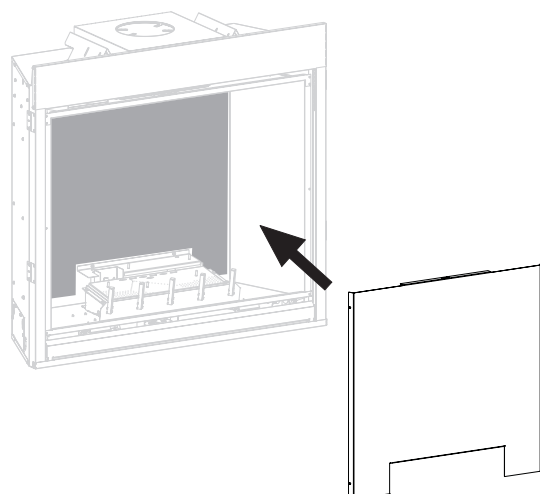

Figure 21
2. Place rear panel on log support in the back of the firebox and hold with one hand. See Figure 21.